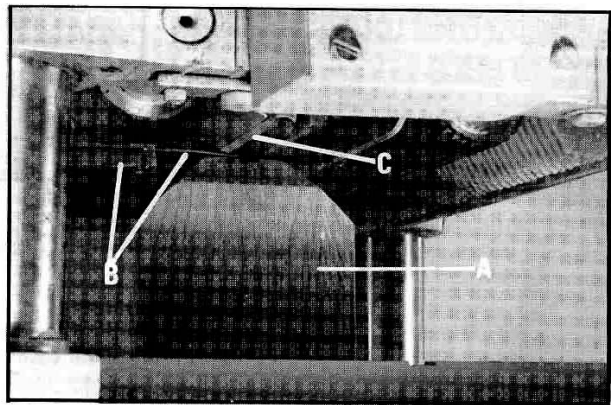

Fig. 54
3. Place the gage block (A) Fig. 54, on the table directly underneath the cutterhead, as shown. Using a .040" feeler gage (B) Fig. 54, placed on top of the gage block, raise or lower the head until the knife (C) just touches the feeler gage when the knife is at its lowest point. Do not move the head any further until the chipbreaker is checked and adjusted if necessary.